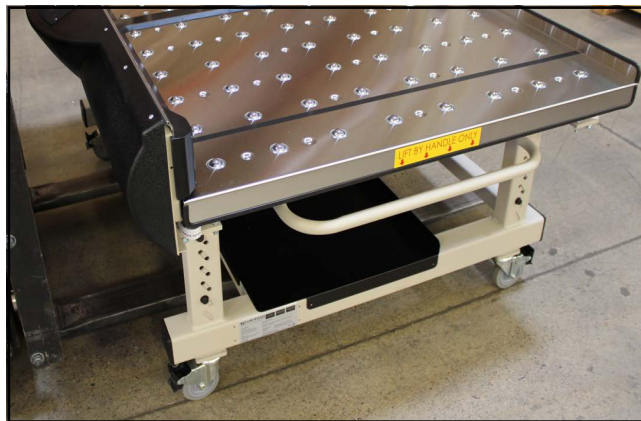

Figure 3
1. Adjust the forks so they can be inserted under the main horizontal frame without touching any other Cubiscan components (see Figure 3).